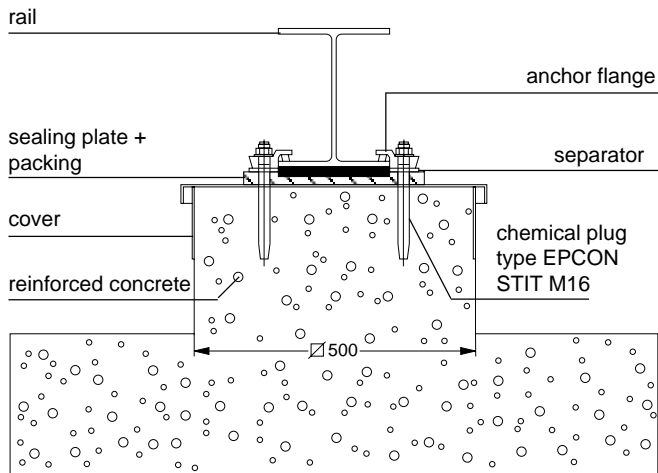

Fig. 15 - Concrete track support plinth
2.1. Concrete track support plinths (Fig. 15 & 16)